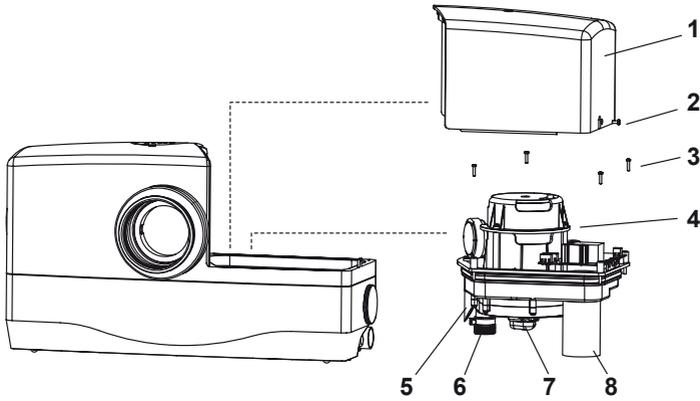

Figure 9
- > To take out the pumping unit for service, remove securing screw (2) and lift off cover (1)
- > Remove securing screws (3) and lift pumping unit (4) from tank (see fig. 9)
If rotating the rotorshaft fails to clear the blockage then the complete motor/pumping unit must be removed from the tank for inspection and the blockage cleared by hand (see page 33, fig. 9).